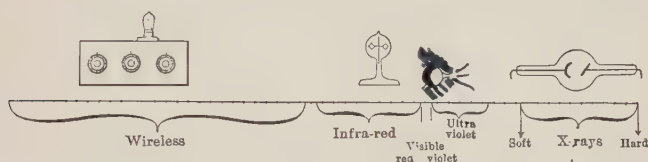

FIGURE 290.—CHART OF ETHER WAVES (AFTER MILLIKAN).
**192. Other Electromagnetic Waves.** — It is of interest to note that relatively few of the waves emitted by electrons are able to excite the eye and thus enable us to see. About one sixtieth of these waves are able to produce vision, while the larger portion of them must be studied by some other effect that they produce (Figure 290). Among the longest of these invisible waves are those that carry messages in wireless telegraphy (Chapter XXXVI), and are called